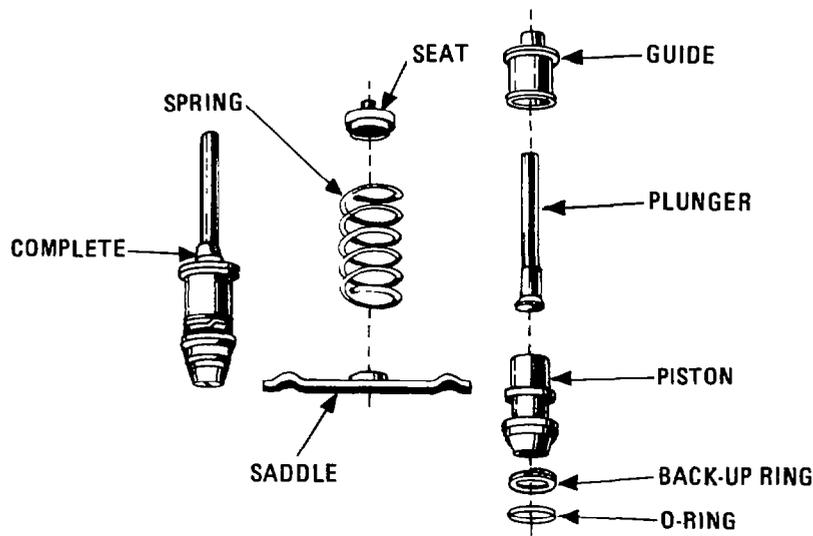

Fig. 379 — Unloader Mechanism
- m. Use long nosed or snipe nosed pliers to remove the unloader spring, spring saddle and spring seat from the inlet cavity in the crankcase; remove the unloader plungers and guides (see fig. 379).